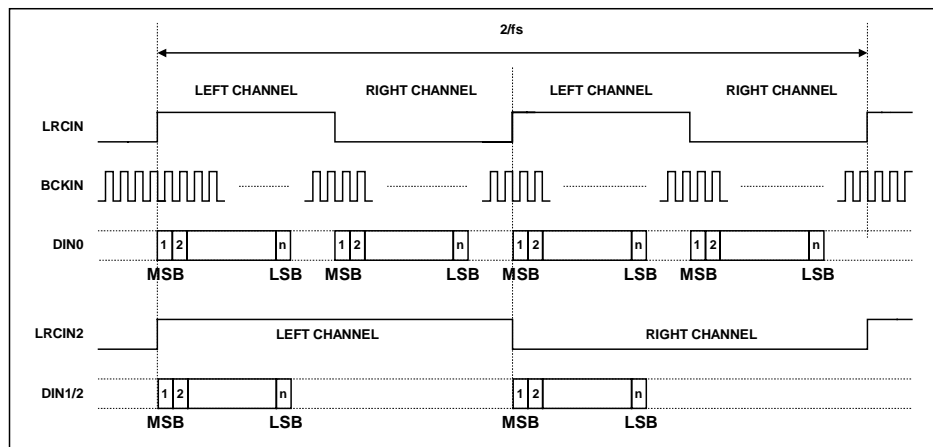

Figure 9 Split Rate Audio Mode Timing Diagram
When running in split rate mode all the channels are clocked in using a common BCKIN; the front channels using LRCIN and all the other channels using LRCIN2 see Figure 9.
1. Figure 9 shows the timing for left justified however this is similar for right justified and I^2S .